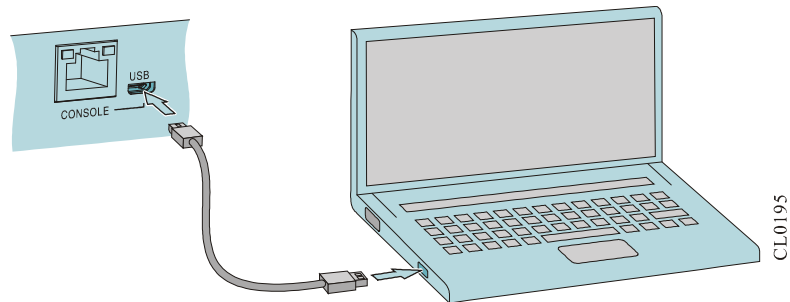

Figure 4-2 Connect the switch and PC through the USB serial port
- The configuration cable for the USB serial port (optional) is a 4-core unshielded cable, one end is a Micro USB 5P (male) interface, and it is inserted into the Micro USB Console port of the switch. The other end has a USB AM interface, which can be plugged into the USB interface of a PC (or laptop), as shown in Figure 4-2.